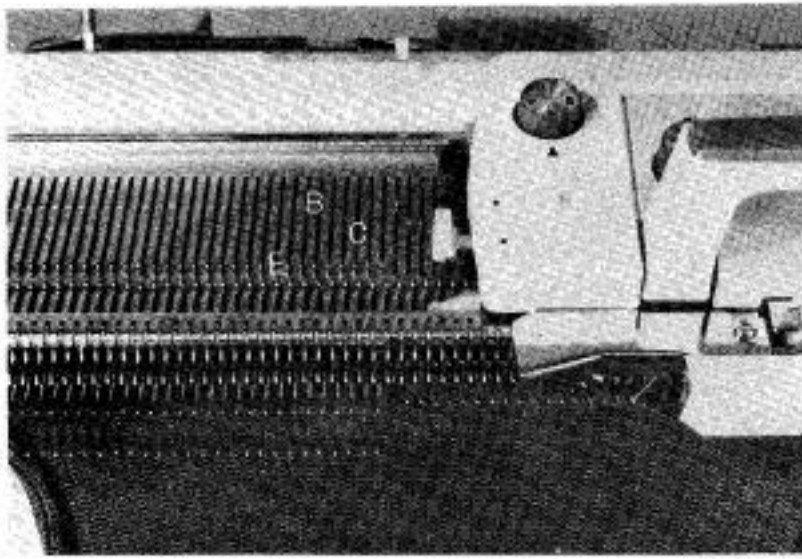

Fig. 57
- (b) At the opposite end to the Carriage bring forward into the Holding Position (E) the required number of needles except the last inside needle which should be pushed back into Position (B) (Fig. 57). Knit 1 row and bring this last working needle—nearest the needles in the Holding Position (E)—forward to Position (E) (Holding Position) (Fig. 58).
- (c) * Push the inside end needle, of those in Working Position (C), back to Position (B) (Fig. 57). Knit 1 row. Now bring this end needle forward to Position (E) (Fig. 58). Knit 1 row.*
- (b) At the opposite end to the carriage bring forward from Working Position (C) into Holding Position (E) the required number of needles (Fig. 57). Knit 1 row.